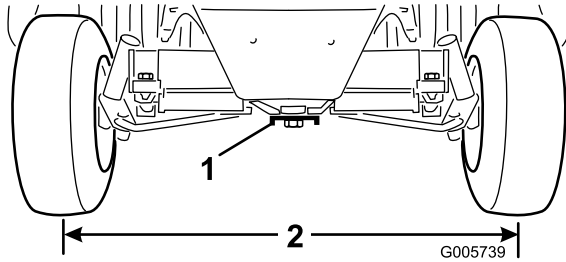

Figure 53
- Loosen the jam nuts on both tie rods Adjust both tie rods until center-to-center distance at front and back of rear wheels is the same (Figure 53).